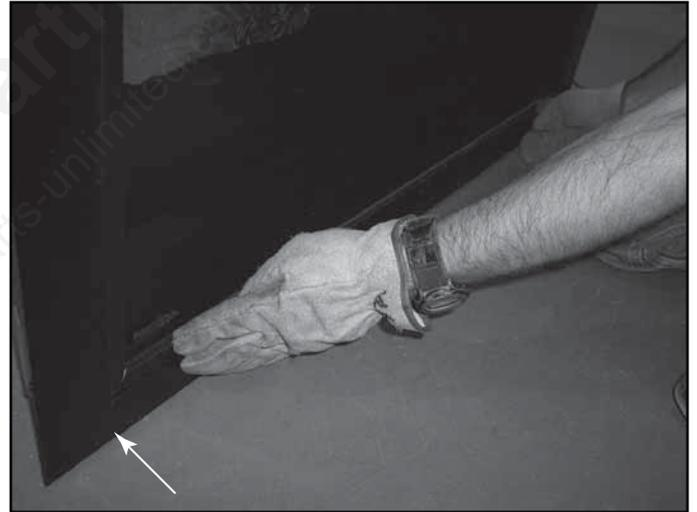

Figure 15.15 Press on Bottom of Screen
- Press in on the bottom of the screen until the magnetic touch latches close. See Figure 15.15.